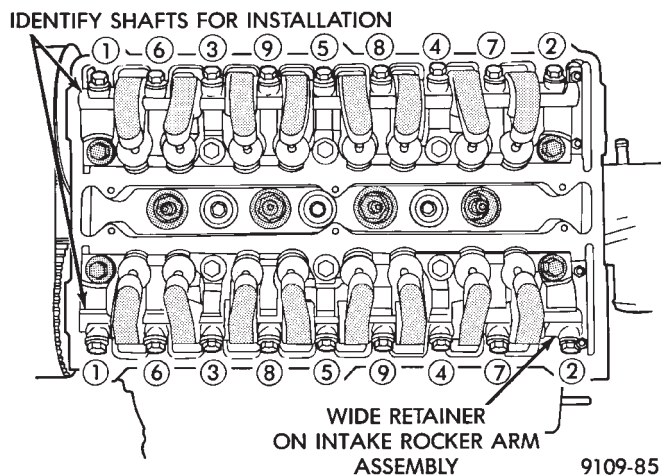

Fig. 8 Rocker Arm Shaft Assemblies
- (3) Remove valve covers and loosen rocker arm assemblies about 3 turns as shown in (Fig. 8).